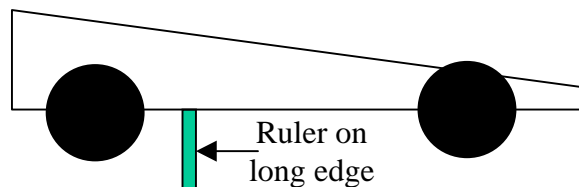

FIGURE 4
The lengthwise location of the center of gravity of a Pinewood Derby car can be easily located as follows: (1) set a ruler on its long edge on a table and (2) lay the car on the ruler as shown in Figure 4. Move the car forward or backward until it balances on the ruler. This balance point is the center of gravity.